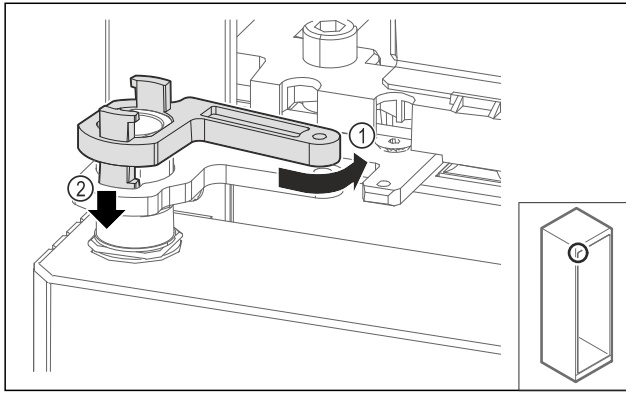

Fig. 71
- ▶ Turn the swap bearing block back slightly Fig. 71 (1), push it downward Fig. 71 (2) and lock it in the hinge angle bar.